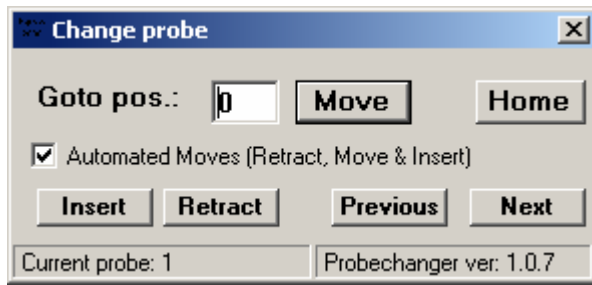

Figure 1-13. The 'Change probe' window.
In 'Probe control' you can rotate the carousel and shift which probe is attached to the chamber. The 'change probe' window is shown in Figure 1-13.
13. Start the Pyrola 2000 Multimatic software. Insert a probe into the chamber by using the Probe control window found under the 'Settings' menu, see Figure 1-13.